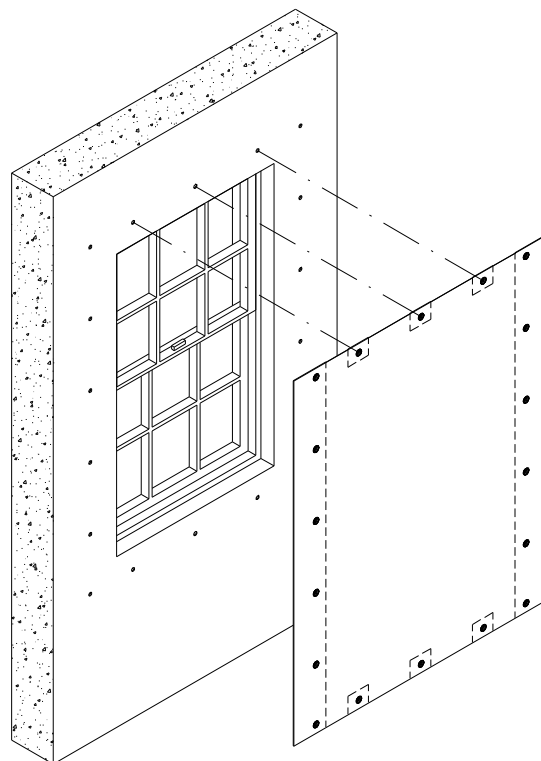

Figure 5
13. Use the new grommet holes as templates to mark the fastener positions on the wall of the house (see Figure 5).